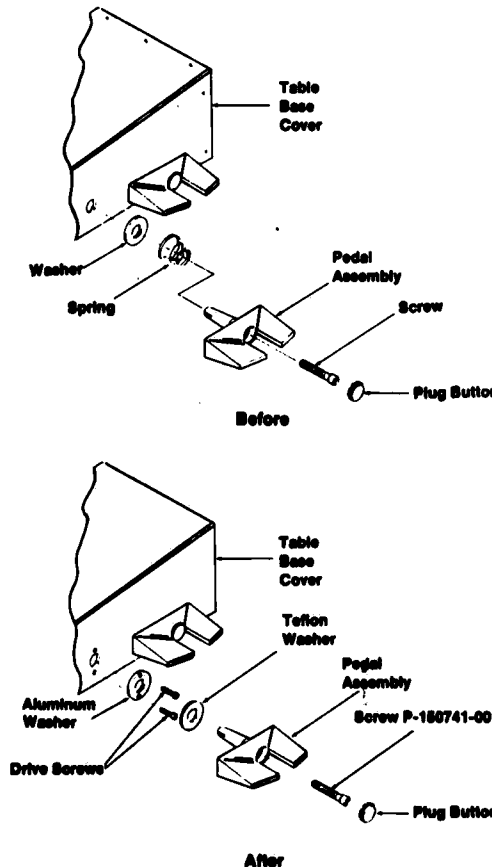

Figure 4-2. Correcting Pedal Actuation Force.
a. Refer to Figure 4-2 and remove pedal assembly as follows:
b. Refer to Figure 4-2. Place aluminum washer on pedal shaft and slide pedal assembly back into table base. Position washer against base cover such that washer attachment holes are vertical. Center the washer so that there is equal space between pedal shaft and inside of washer. Using attachment holes in washer as guides, punch-mark base cover for drilling. Remove pedal assembly and washer.